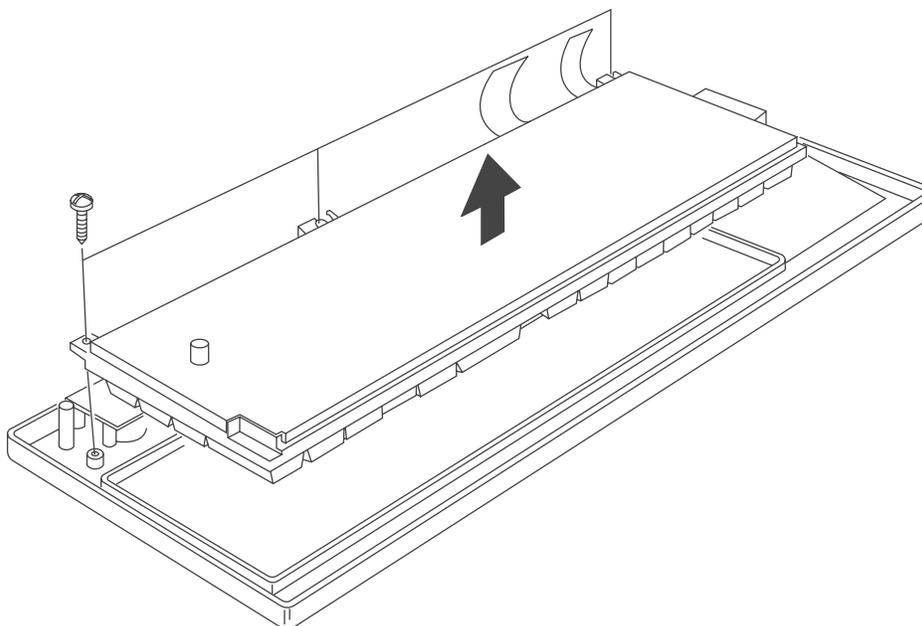

Figure 61. USB keyboard-V components – part 6
2. Remove the three screws as shown in Figure 61 on page 62.